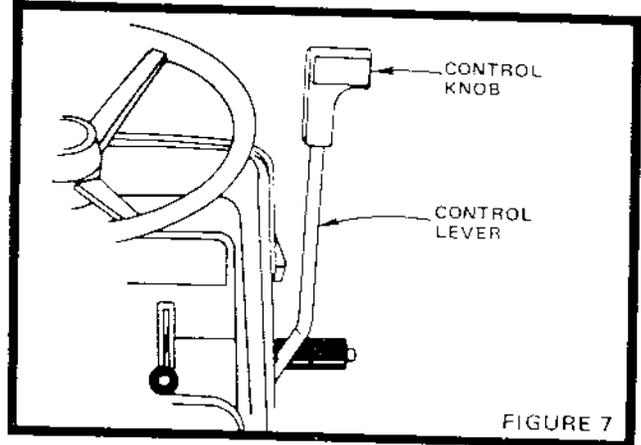

FIGURE 7
7. Position Control Knob on Control Lever as shown in Fig. 7 and push down firmly. Control Knob found in Bag of Parts.